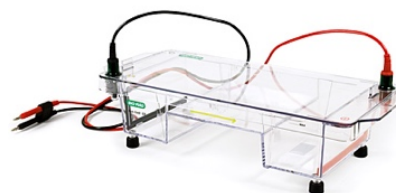

Figure 2. Bio-Rad Sub-Cell GT Cell ^[2]
3. Put tray into Bio-Rad Sub-Cell GT Cell (Figure 2)